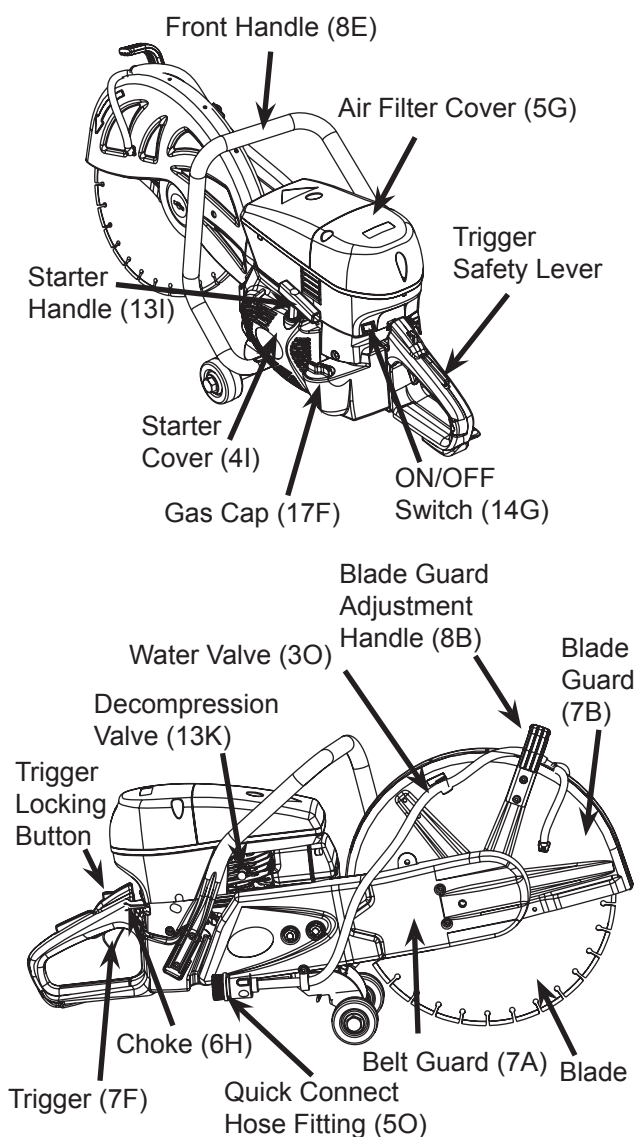

Figure 1
Note: Refer to the Components and Controls Diagram, Figure 1 on page 10 for the following instructions.
3. Hold the Trigger Safety Lever in using your palm, squeeze the Trigger (7F) and then press in the Trigger Locking Button (see Figure 1, page 9 for location of controls). Release the Trigger, then release the Trigger Locking Button and the Trigger Safety Lever. The Trigger should remain locked in the engaged position.